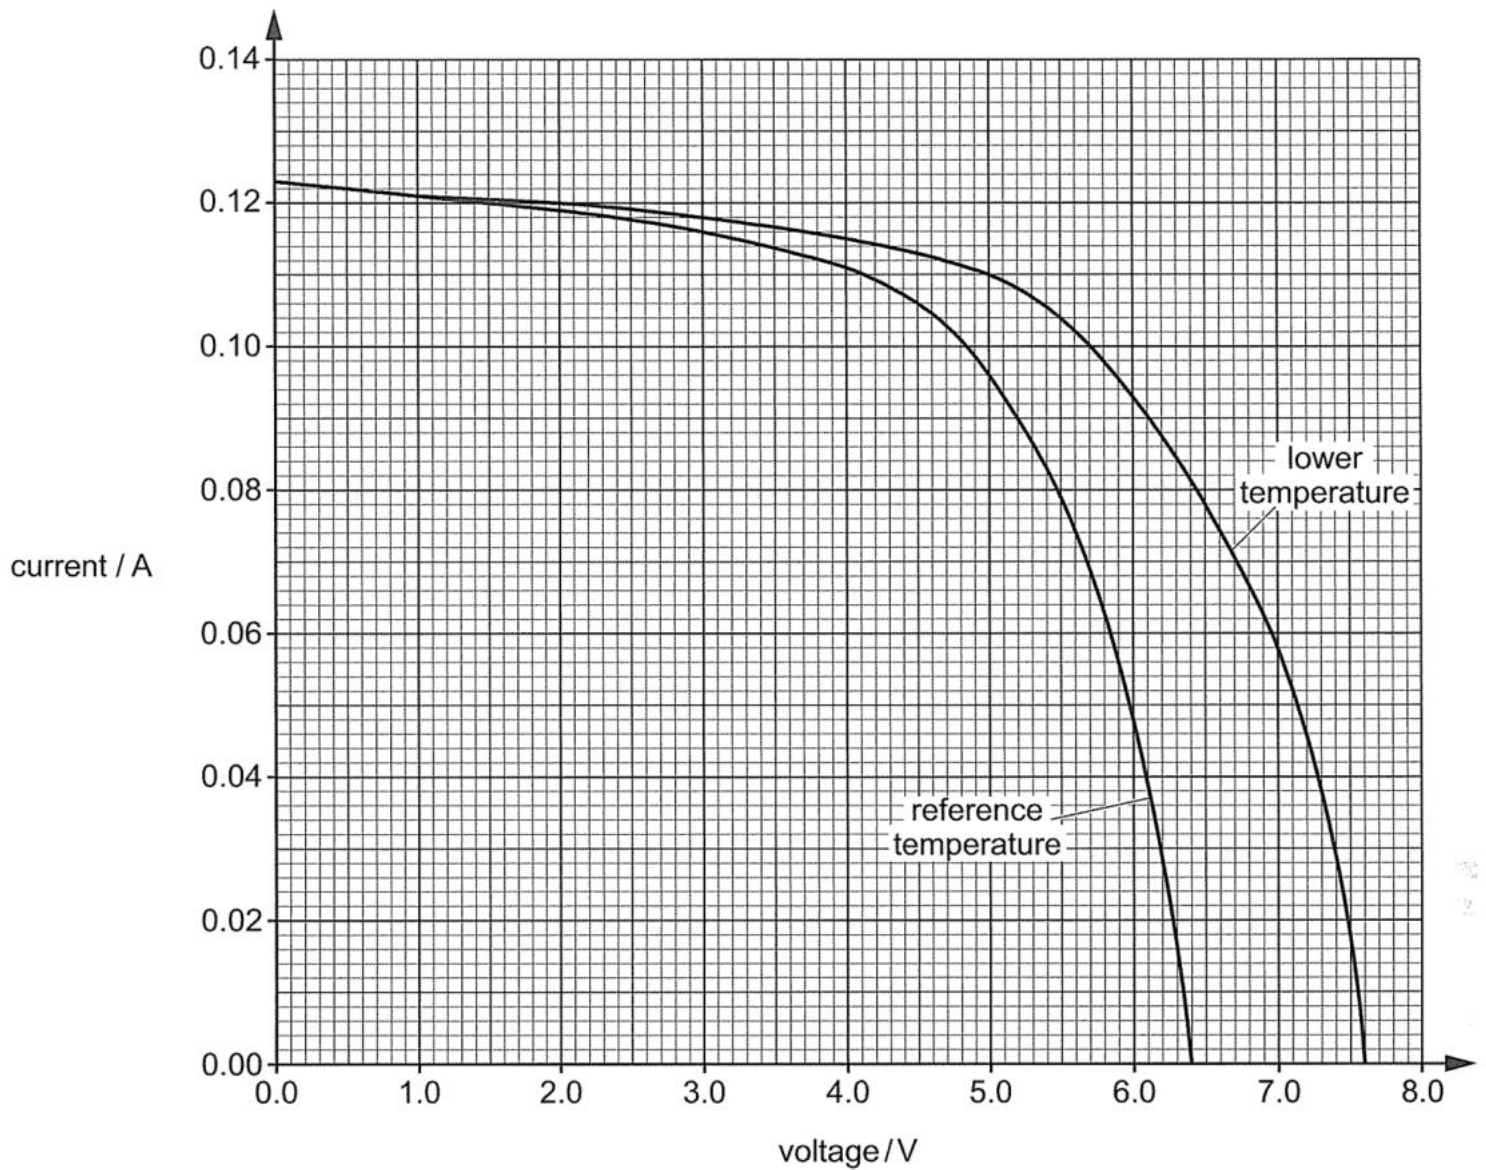

Fig. 8.1
The variation with voltage of current at two different temperatures for one cell of the panel is shown in Fig. 8.1
(e) (i) Use Fig. 8.1 to state the open circuit voltage (e.m.f.) of the PV cell at both the reference temperature and the lower temperature.
(ii) Use Fig. 8.1 to describe qualitatively the variation with temperature of the current in the cell.
- (v) Use your answers to (e)(i) and e(iv) to determine the lower temperature used to obtain the data for Fig. 8.1.
On Fig. 8.1, indicate the area which represents the output power of the cell. [1]
- (vii) Use Fig. 8.1 to estimate the maximum power output of the PV cell at the reference temperature.